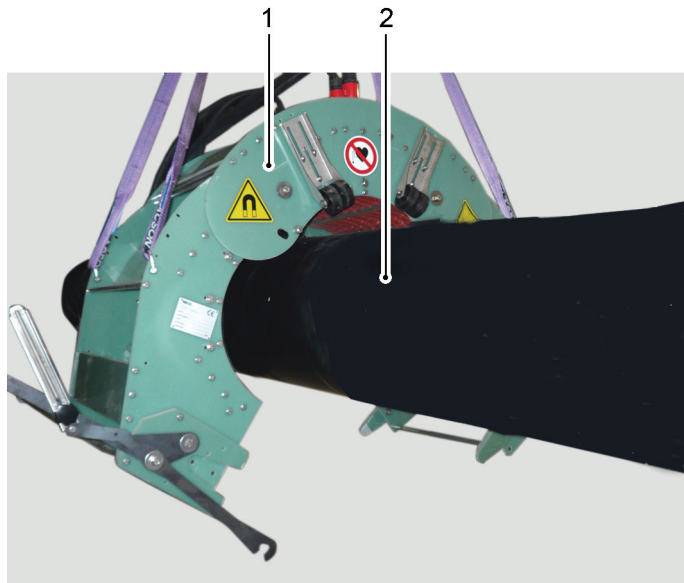

Figure 6.22 - Positioning of the clamp coil onto the pipe
- 4) By using the motor vehicle mechanical arm, drop the clamp coil (see Figure 6.22/1) onto the pipe (2).